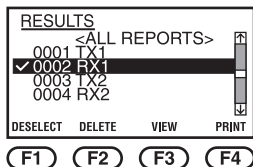

Figure 7-1. Results menu (Test 0002 selected).
- To print a single report, press the up- and down-arrow keys until the number of the test report you want to print is highlighted. See Figure 7-1.